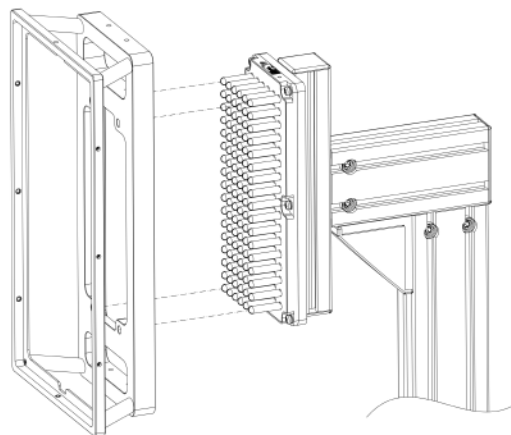

Figure 5-18: Placing the frame
2. Put the plate labeled "A" into the support, as shown in Figure 5-18.